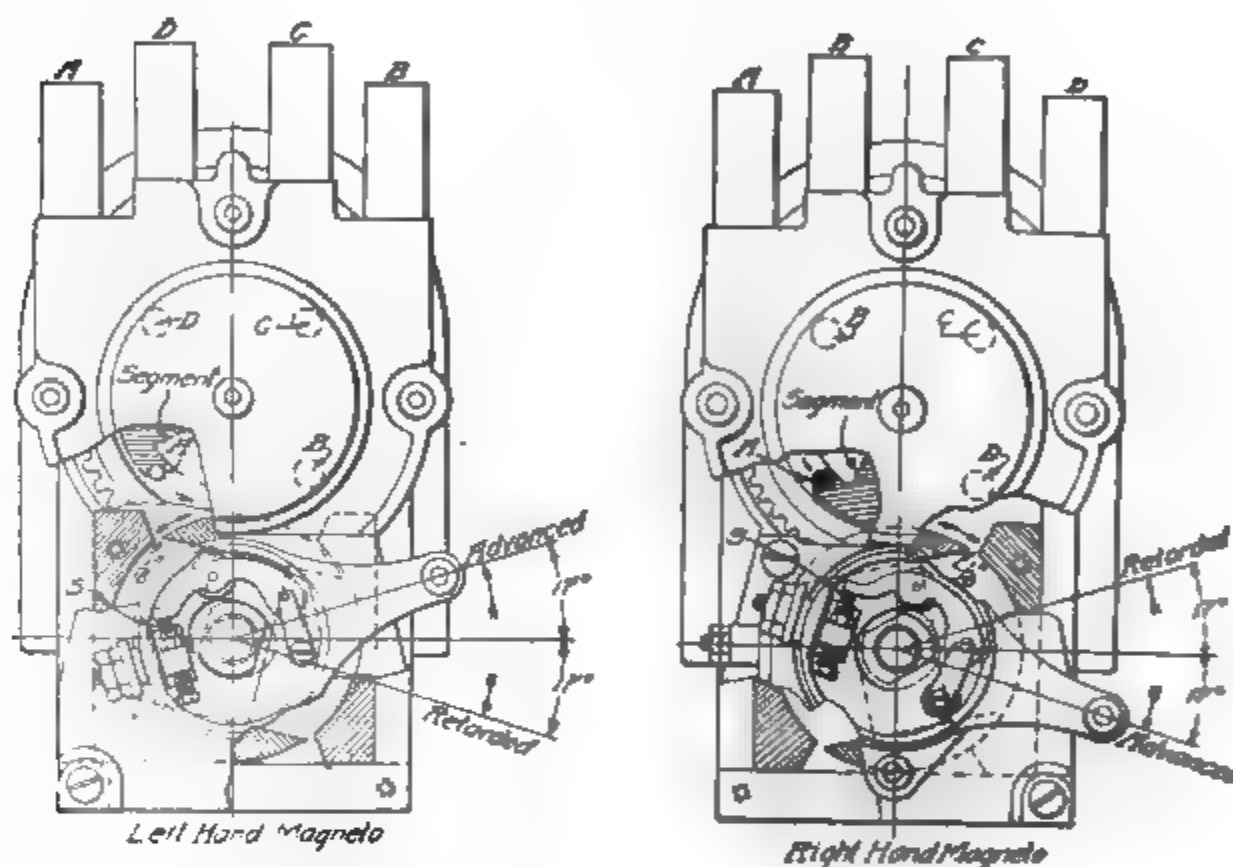

Fig. 92 Method of Advancing and Retarding Spark, Splitdorf Magneto
**Magneto Timing.** Timing is usually 30 to 40 degrees, which means that the spark occurrence can be advanced or retarded half the distance from a neutral line representing the upper dead center position of the piston. As shown by Fig. 92, the allowance is 34 degrees in the Splitdorf magneto, "left" and "right" in this connection havin